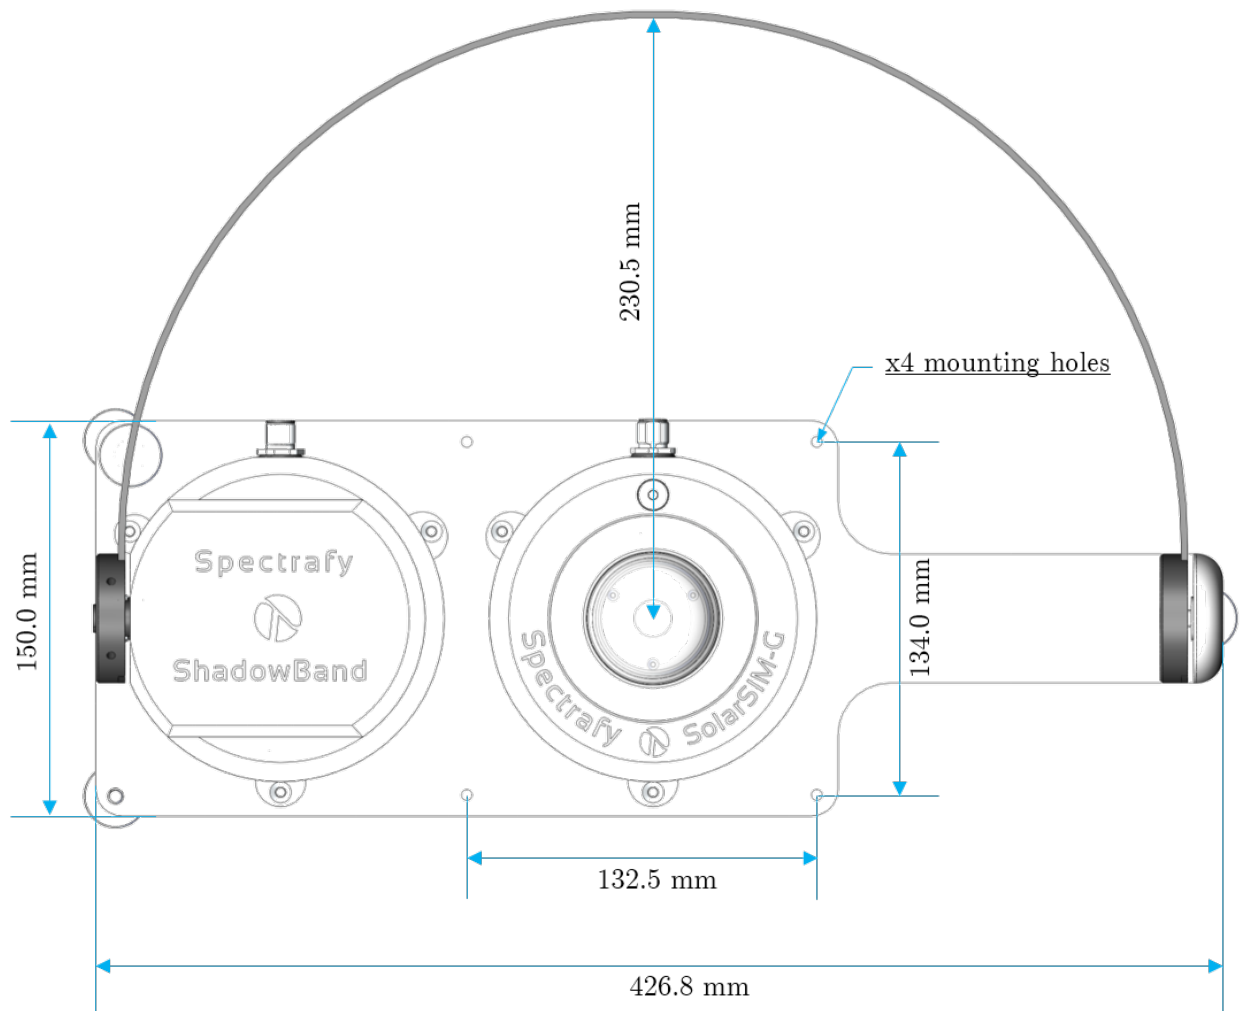

Figure 2: Main dimensions of the SolarSIM-E on a mounting plate. Four mounting holes are used to secure the device to a test platform or a table.
The SolarSIM-E installation requires fastening it to the mounting plate via three M4 screws and springs, as demonstrated in Figure ???. The mounting plate is 7.3 mm thick and has three slots with a 132 mm diameter that are 4.5 mm wide for external fastening, as shown in Figure 2. The screws for external mounting are not provided. The procedure for mechanical installation is described as follows:
1. Place the SolarSIM-E on the mounting plate as per Figure 2.